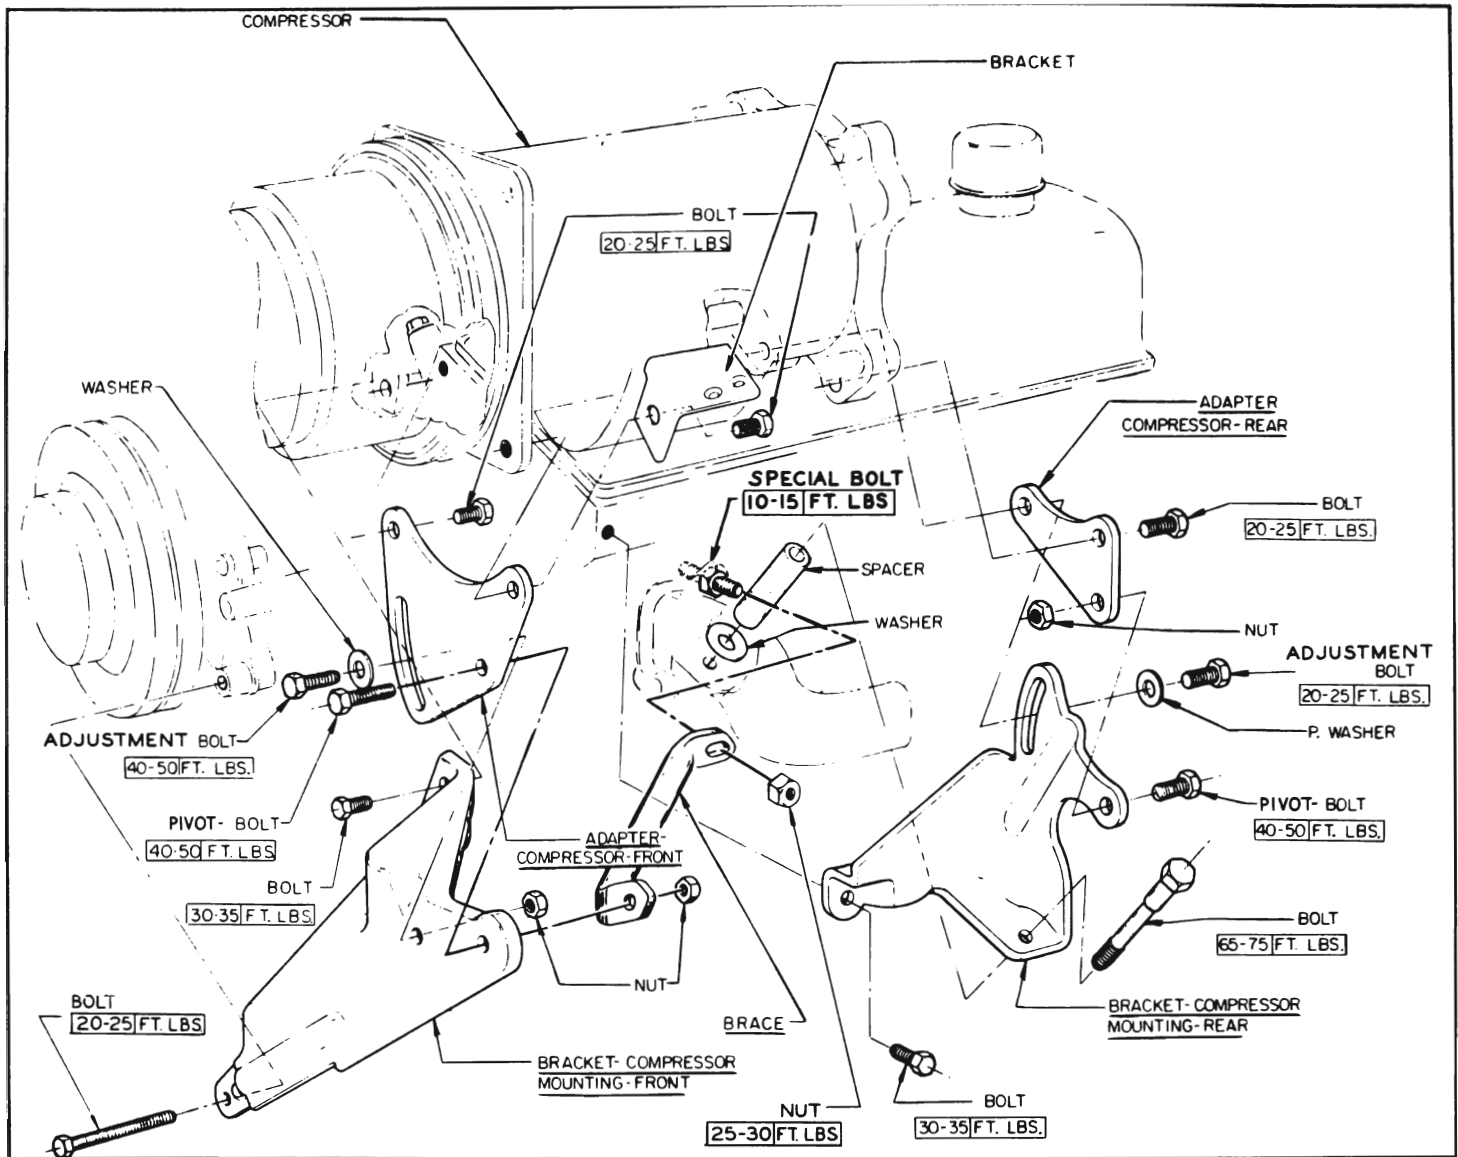

Figure 11-102—Compressor Mounting - V-6 Engine
5. Remove the two compressor adjustment bolts and the two pivot bolts. See Figure 11-102.